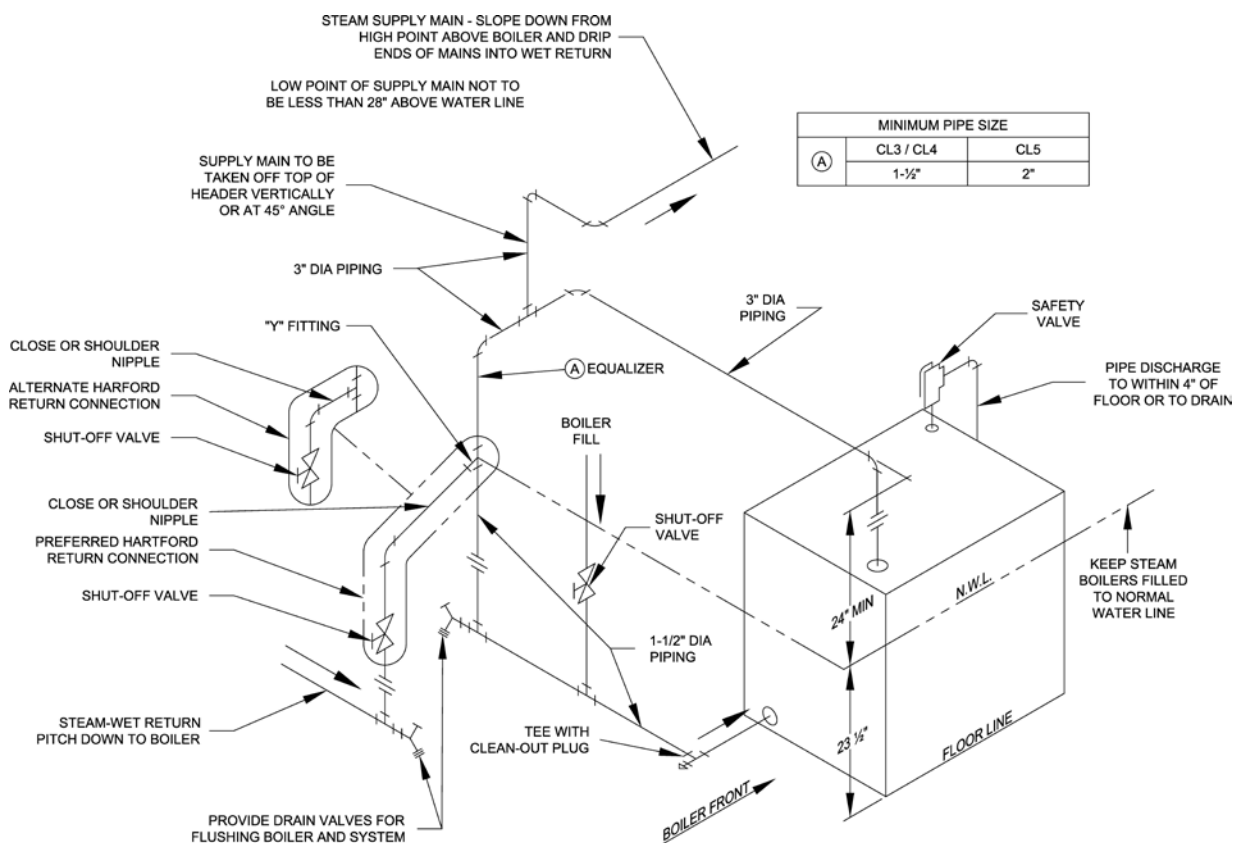

Figure 12: Recommended Boiler Piping For Gravity Return Steam Boiler
1. Thread 3/4" MPT safety valve and 3/4" NPT coupling onto factory installed 3/4" NPT x 7/4" nipple located in left rear corner on top of boiler as shown in Figure 1C. Tighten with wrench. Pipe discharge as shown in Figure 12. Installation of the relief valve must be consistent with ANSI/ASME Boiler and Pressure Vessel Code, Section IV.
2. Install 3/4" drain valve in wet return piping as shown in Figure 12.
- a. For Recommended STEAM BOILER PIPING refer to Figure 12. Also, consult Residential Hydronic Heating Installation and Design I=B=R Guide.